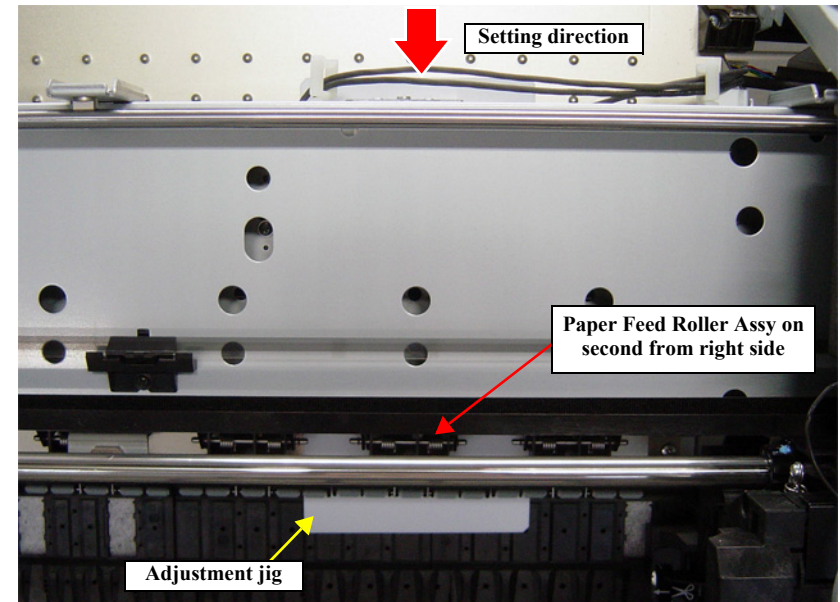

Figure 5-54. Position for the thickness tool (0.4/0.8/0.9 in thickness)
- Insert the adjustment jig (0.4) from the paper insertion opening, and set it to the position shown in Figure 5-54, then press the **[Paper Set]** button.
15. Insert the adjustment jig (0.8) from the paper insertion opening, and set it to the position shown in Figure 5-54, then press the **[Paper Set]** button.
18. Insert the adjustment jig (0.9) from the paper insertion opening, and set it to the position shown in Figure 5-54, then press the **[Paper Set]** button.